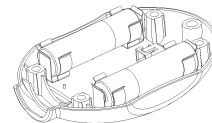

FIG 2
2. Separate the enclosure and place it on a flat surface, FIG 2.
7. Install the battery: Align the battery over the terminal clip mounted on the PCB Assembly and press down until the battery snaps into place, FIG 2.